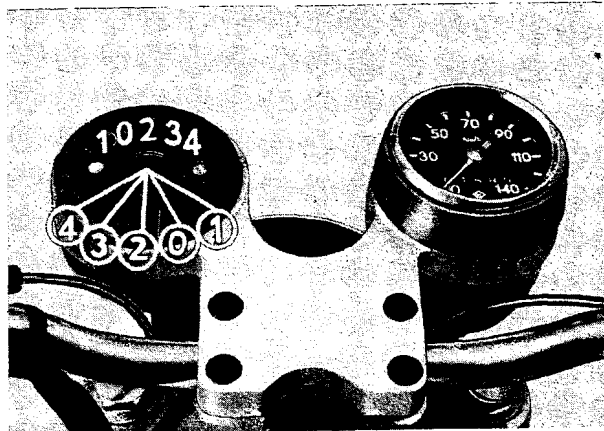
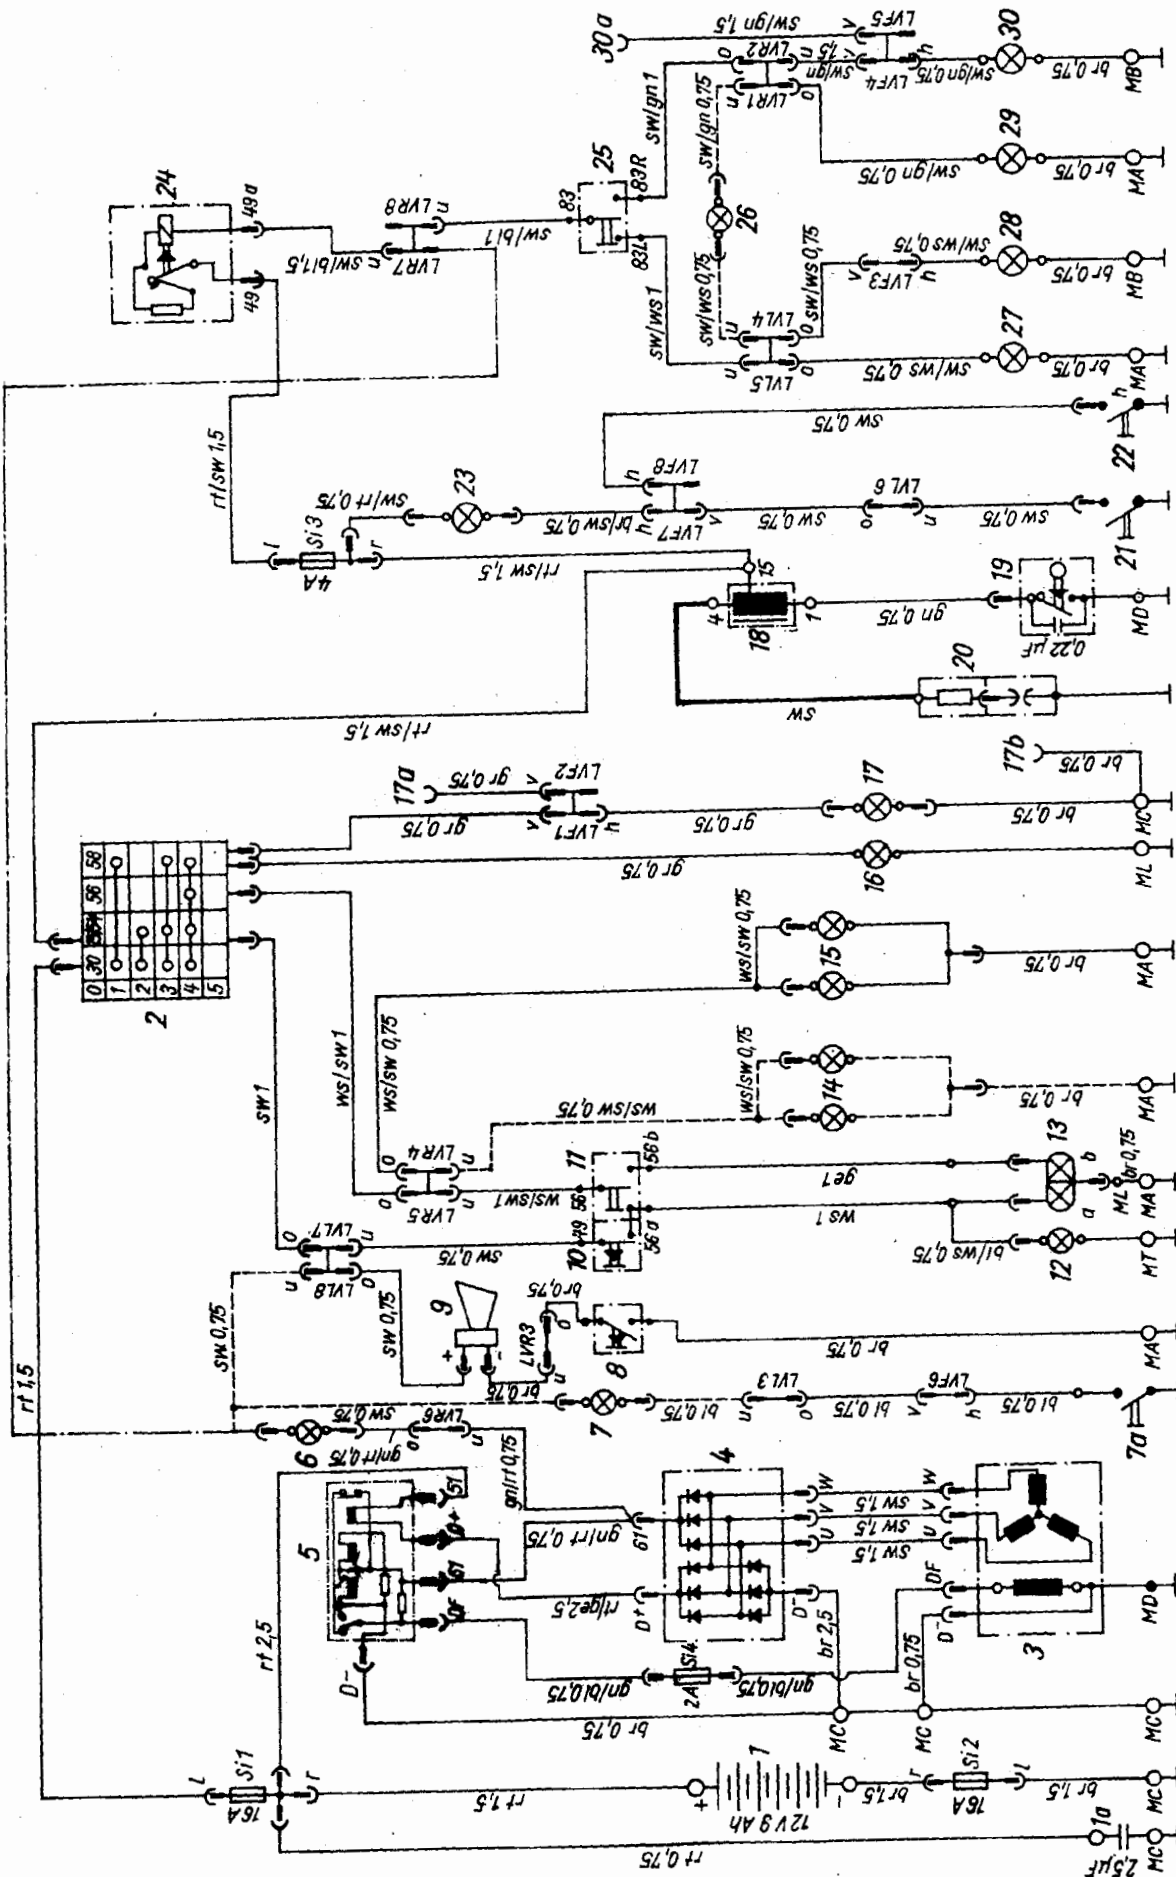
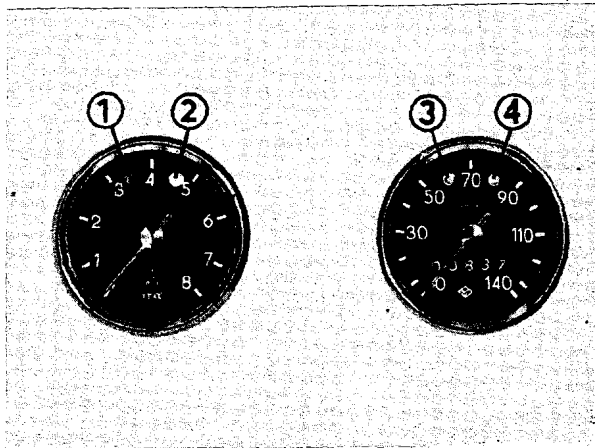
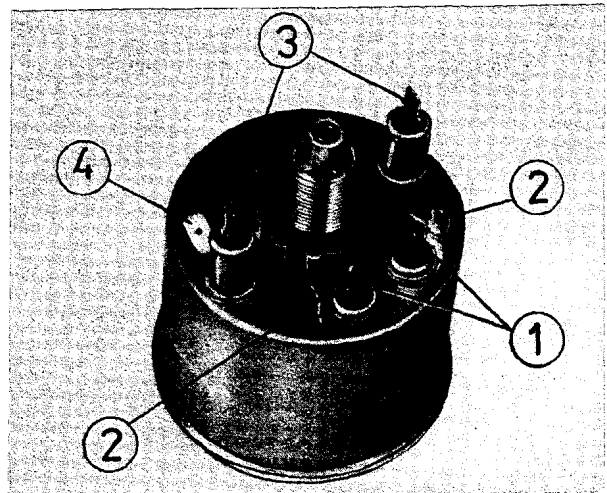

Fig. 176. Switch positions of the ignition-light switch
Fig. 184. Circuit diagram
Fig. 185. Arrangement of the tell-tale lights
Fig. 186. Arrangement of the lamps in the instruments
[It is used to switch the following (see Fig. 176 and Wiring Diagram, Fig. 184):
The circuit diagram, Fig. 184, gives the required data on course of cables and cable colours for repairs at the loads and the electrical system.
Legend for Fig. 184, Circuit diagram
Arrangement and meaning of the tell-tale lights are indicated in Fig. 185. As to the wiring and interconnection with other electrical devices, the necessary information is given in the Circuit Diagram, Fig. 184.
- (1) Idling indication, yellow (only deluxe model)
- (2) Control light for dynamo, red (only deluxe model)
- (3) High headlight beam control, blue
- (4) Control of direction indicators, green (in the standard design of the motor-cycle, this is also the control light for the dynamo)
Tachometer and revolution counter are illuminated in night operation. For this purpose, the lamps marked by (3) in Fig. 186 are used which get ground via the flat plug connection (4). The function of the lamps indicated by (1) is illustrated in Fig. 185.